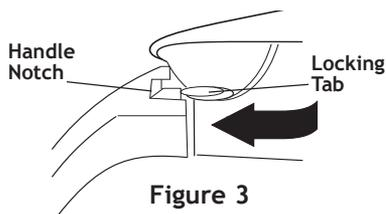

Figure 3
5. Place Blending Jar Lid with Measuring Cap on Blending Jar. Turn the Blending Jar Lid so that the Locking Tab of the Lid fits securely into the notch in the top of the Handle. (See Figure 3.)